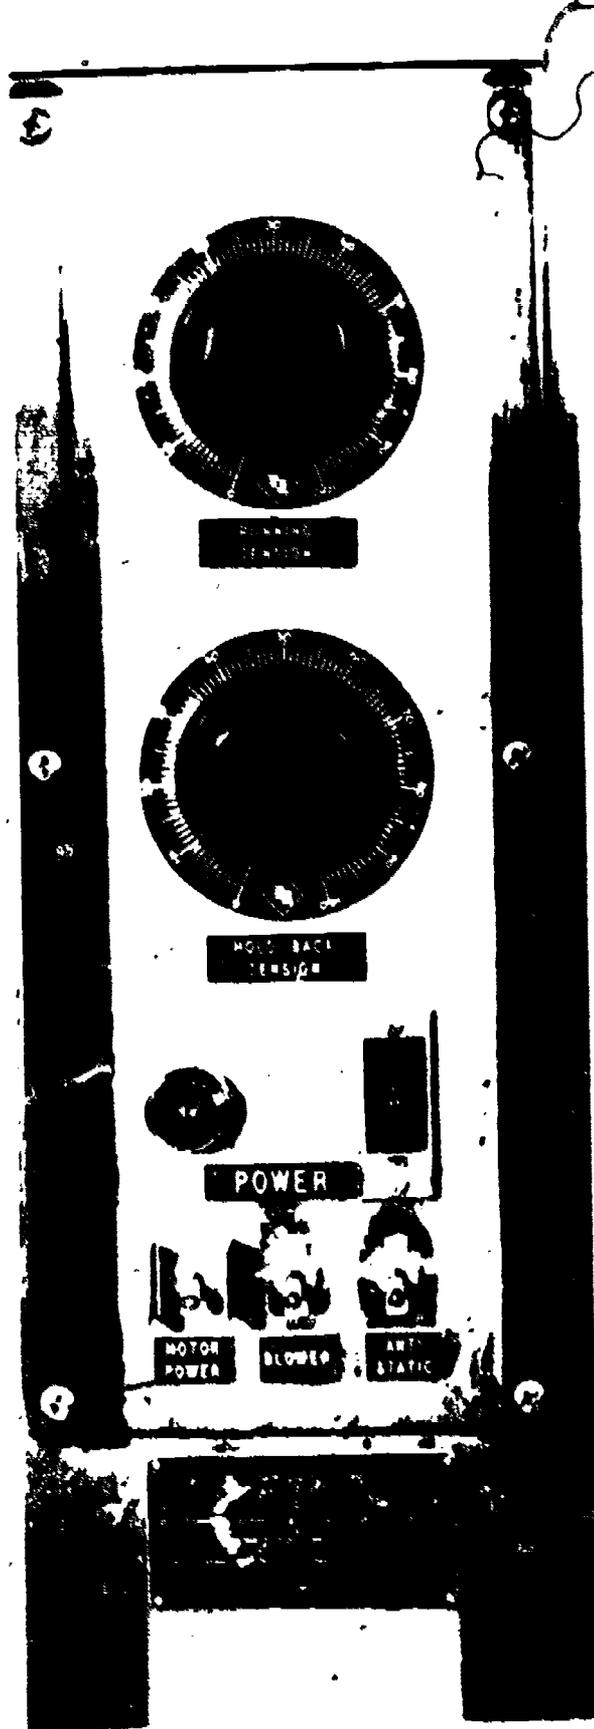
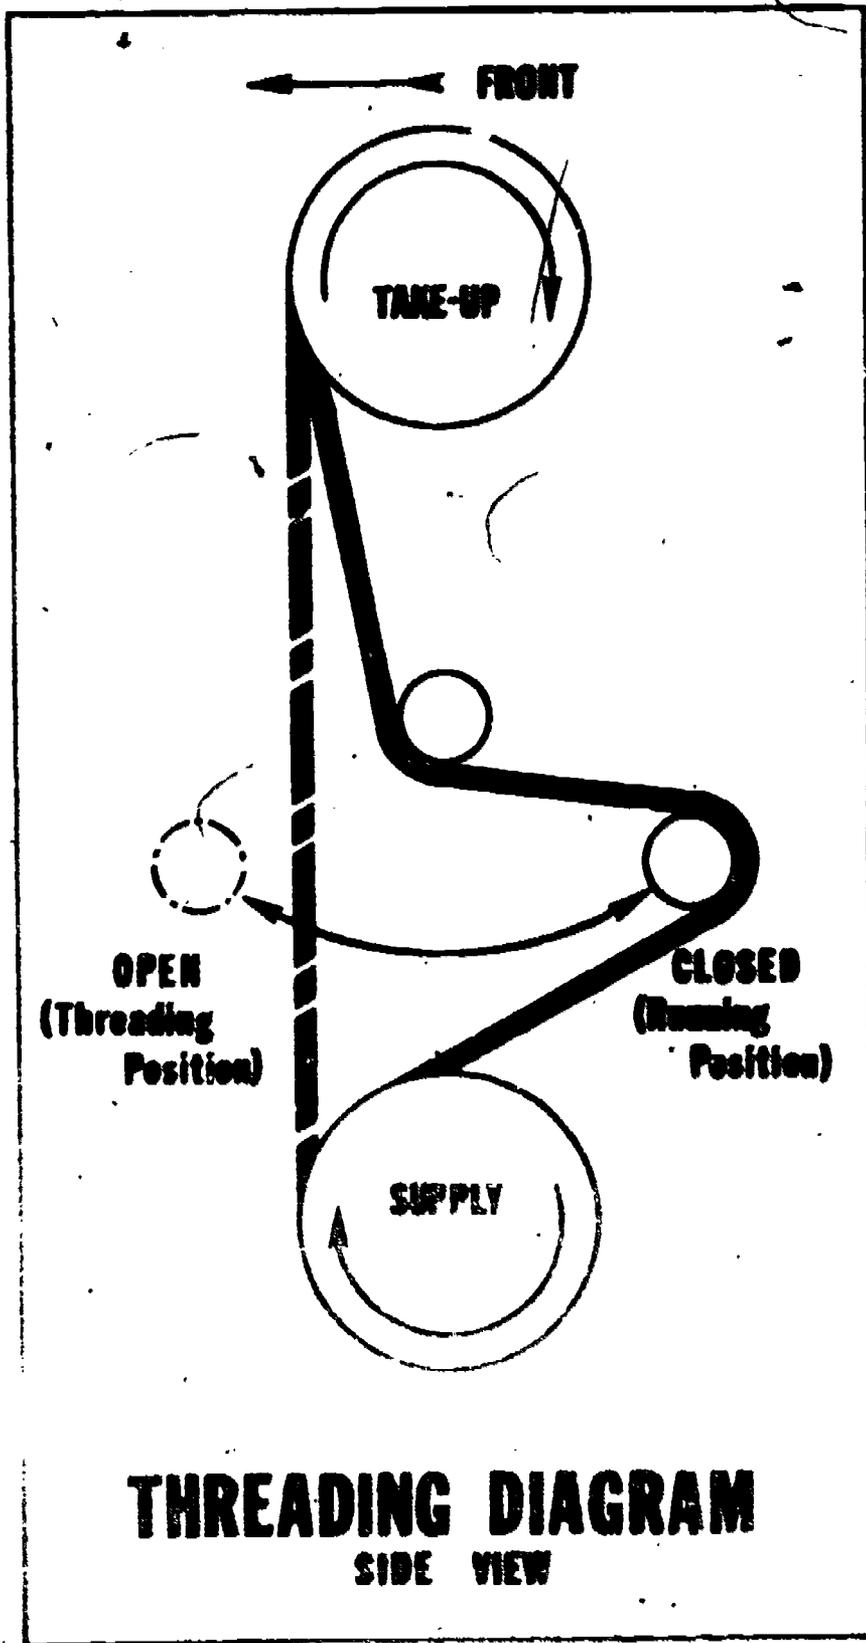

Figure 2-9. Control Panel
Figure 2-10.
CONTROL PANEL. The control panel shown in Figure 2-9 is located on the right front of the cabinet in full view and easy reach of the operator. The panel has the following controls:
b. After preliminary alignment of the two spindle assemblies, raise the tacky roll arm assembly and use the spring-loaded locking stud to secure it in the threading position (see figure 2-9). Slowly pull leading end of the film and thread it between the two tacky rolls, over the static-eliminator bar, and wrap it (about 2 or 3 revolutions) around an empty spool in the takeup spindle. See figure 2-10, Thread- ing Diagram.